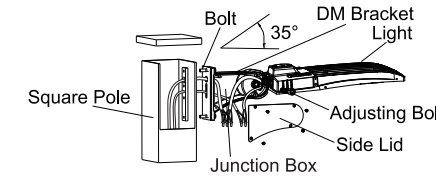

Figure 15
Step 1: Fix DM bracket to square pole with bolt, open the side lid of DM bracket, pull the wire into junction box, and connect the wire correctly. (Figure 15)
Notice: Adjustable angle is 0-35° (Figure 15).